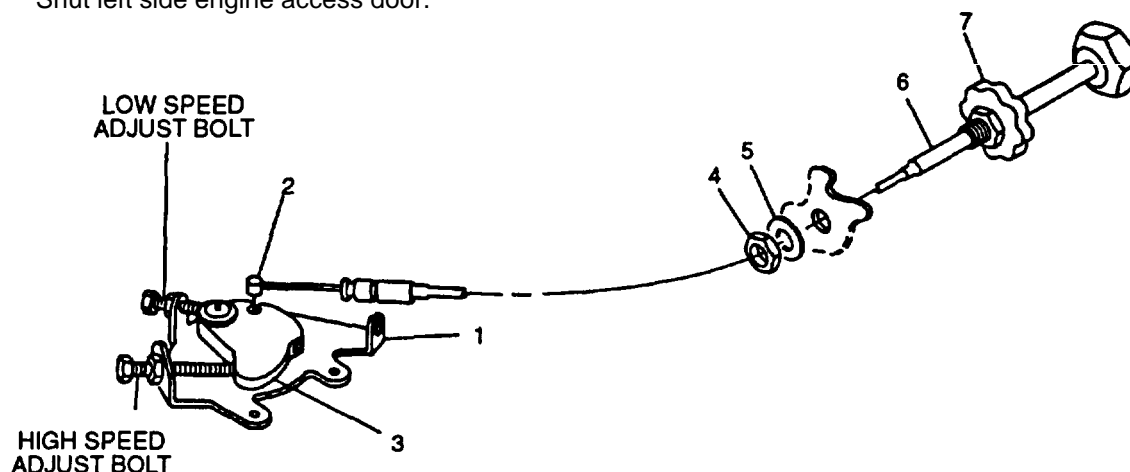

FIGURE 2-24. Frequency Adjust Control Cable Assembly
- Spread keeper (1, FIGURE 2-24) and remove control cable wedge (2) at governor speed lever (3).
- Open load terminal board access door and loosen nut (4). Slide nut (4) and washer (5) off cable assembly (6).
- Remove frequency adjust control cable assembly (6) from rear of generator set.
- Insert frequency adjust control cable assembly (6, FIGURE 2-24) at rear of generator set.
- Install washer (5) and nut (4), and close load terminal board access door.
- Install control cable wedge (2) at governor speed lever (3).
- Install frequency control cable (6) in keeper (1). Close keeper (1).
- b. Open left side engine access door and remove control cable wedge (2, FIGURE 2-24) from governor speed lever (3).
- c. Loosen jam nuts on both speed adjust bolts on governor control and turn bolts counterclockwise until they do not touch speed lever (3).
- d. Adjust frequency control adjust cable (6) with nuts (4) and (7) and connect cable to speed lever (3) so that lever is positioned approximately mid-range.
- f. Turn high speed adjust bolt on governor control until it contacts speed lever (3) and tighten jam nut.
- h. Turn low speed adjust bolt on governor control until it contacts speed lever (3) and tighten jam nut.